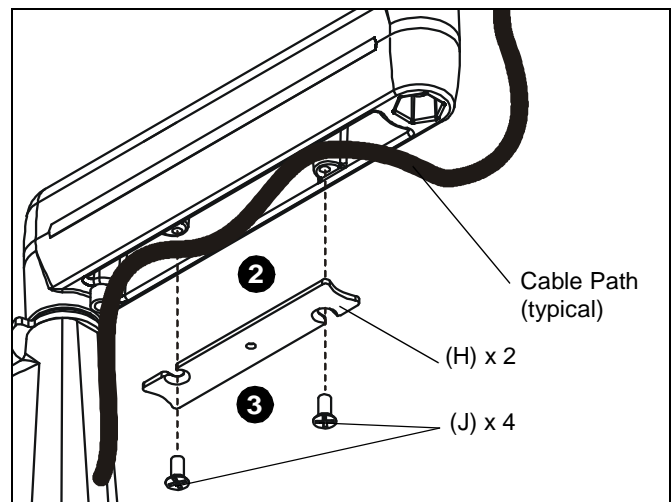

Figure 10
**CAUTION:** Ensure that adequate cable slack exists for movement of display, and that cables will not be pinched by installation of cover (H) or screws (J).
2. Carefully insert cables in cavity located in lower portion of mount arm. (See Figure 10)
3. Using Phillips screwdriver, install cover (H) with two screws (J) per arm. (See Figure 10)